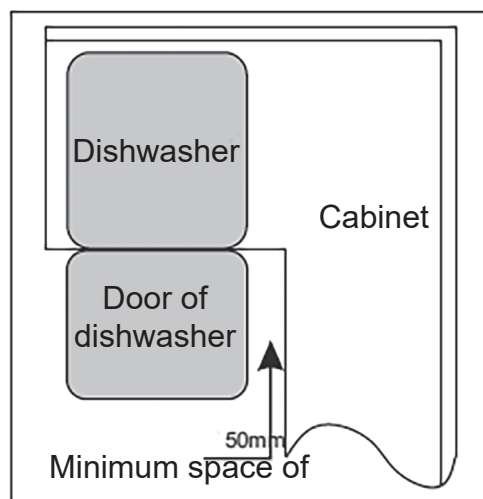

Figure 2
2. If dishwasher is installed at the corner of the cabinet, there should be some space (illustrated in figure 2) when the door is opened.